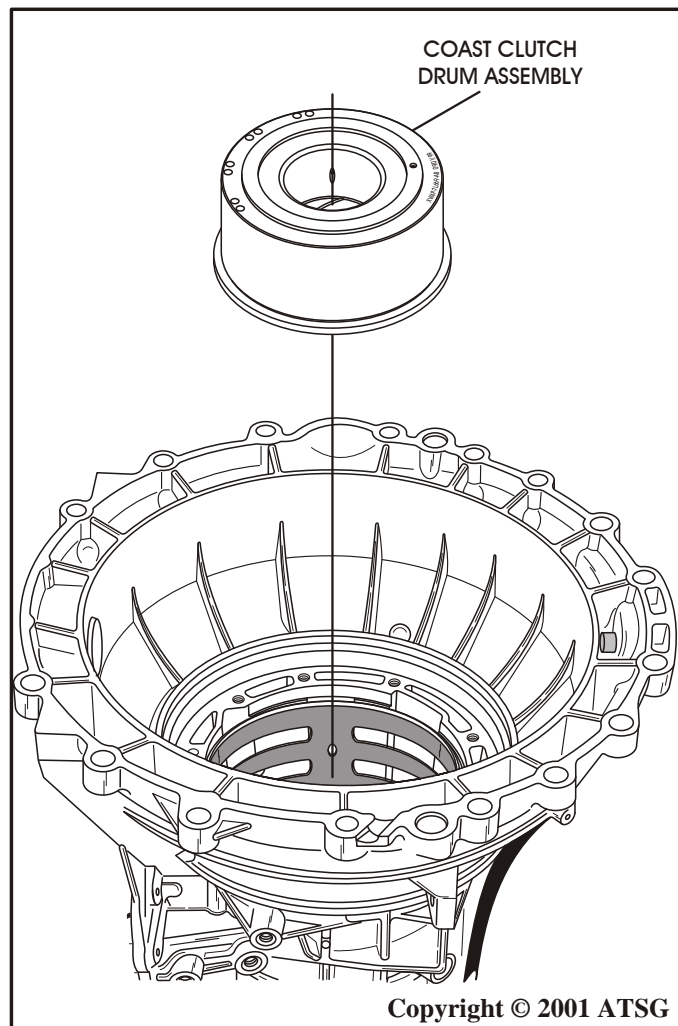

Figure 39
38. Remove the OD/Coast clutch drum assembly, as shown in Figure 39, and set drum aside for the component rebuild section.